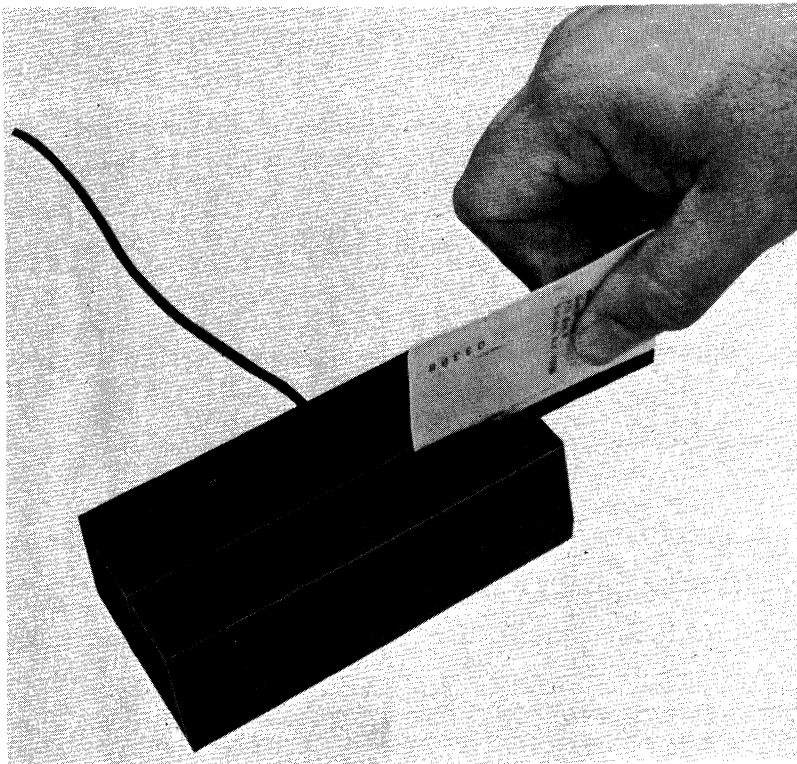

Figure 4-4. Magnetic Slot Reader Accessory
The magnetic slot reader is an accessory for the 3276 Control Unit Display Station that is used to send coded messages to the host system. The magnetic slot reader (Figure 4-4) attaches to your display station through a 1.5 metre (59 inch) cable. When your display station is equipped with a reader, you can send a coded message to the host system by passing a special magnetic-stripped card through the slot in the reader. You may be required to use a card reader when, for example, you begin operating the display station.
3. Insert the magnetic-stripped card into the reader as shown in Figure 4-4 and pass the card through the slot in the reader.